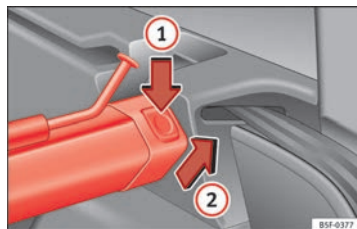

Fig. 101 In the luggage compartment: removing the net partition.
- Press the left or right release catch ⇒ Fig. 101 in the direction of the arrow ①.
- Remove the casing from the support in the direction of the arrow ⇒ Fig. 101 ②.
- Press the casing into the left and right supports in the opposite direction to the arrow ⇒ Fig. 101 ② until it engages.